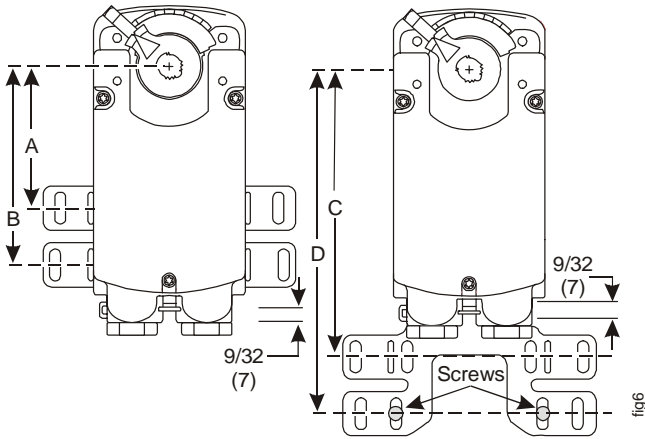

Figure 6: Positioning the Anti-Rotation Bracket
4. See the dimensions in Table 1 and Figure 6 to ensure correct positioning of the anti-rotation bracket.
5. Drill mounting holes in the damper frame or duct using the anti-rotation bracket as a guide (based on the measurements from Table 1 and Figure 6).